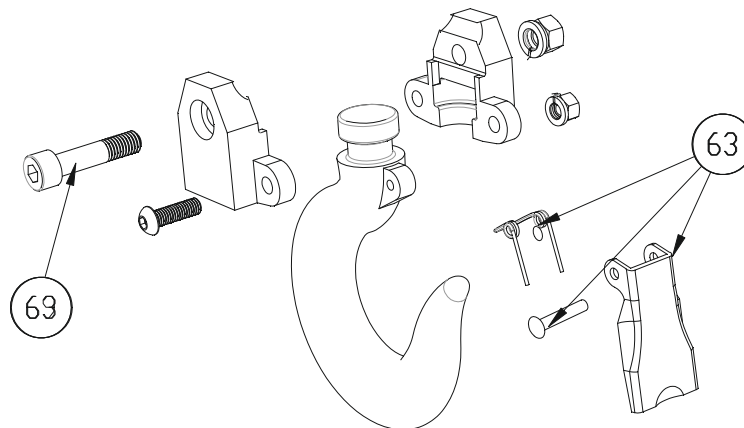

Figure 6 : 1T, 3T BOTTOM HOOK ASSEMBLY
- 1 The intermediate spur wheels (item 7) and the load spur wheel (item 12) should be aligned with the S and O marks as shown in Fig. 6.
- 5 The six nuts (item 37) securing the gear cover and hand chain wheel cover must be tightened.